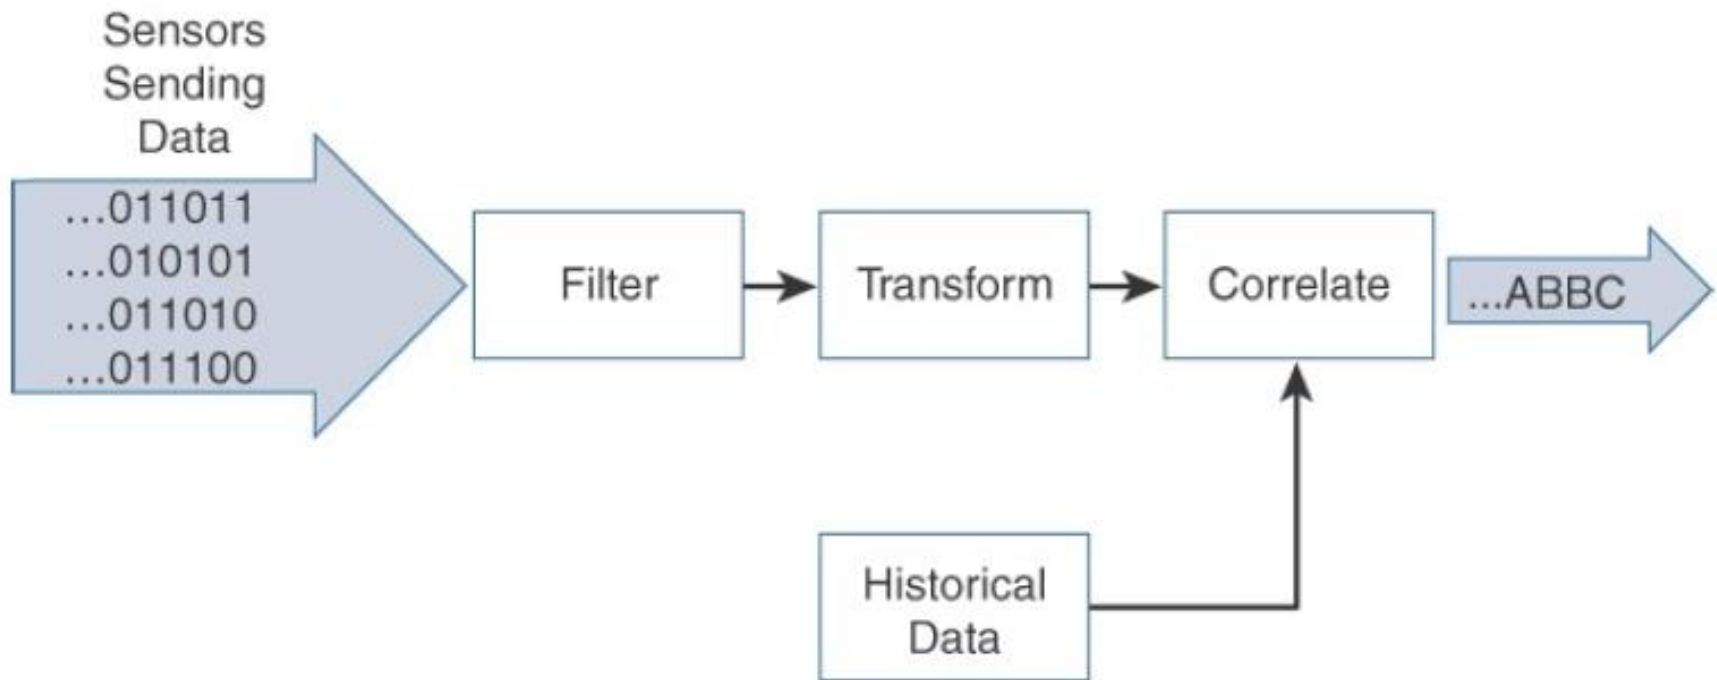

Figure 7.14 : Correlating Data Streams with Historical Data
- Combining *historical data* gives the *live streaming data* a *powerful context and promotes* more insights into the current condition of the patient as shown in the figure 7.14.